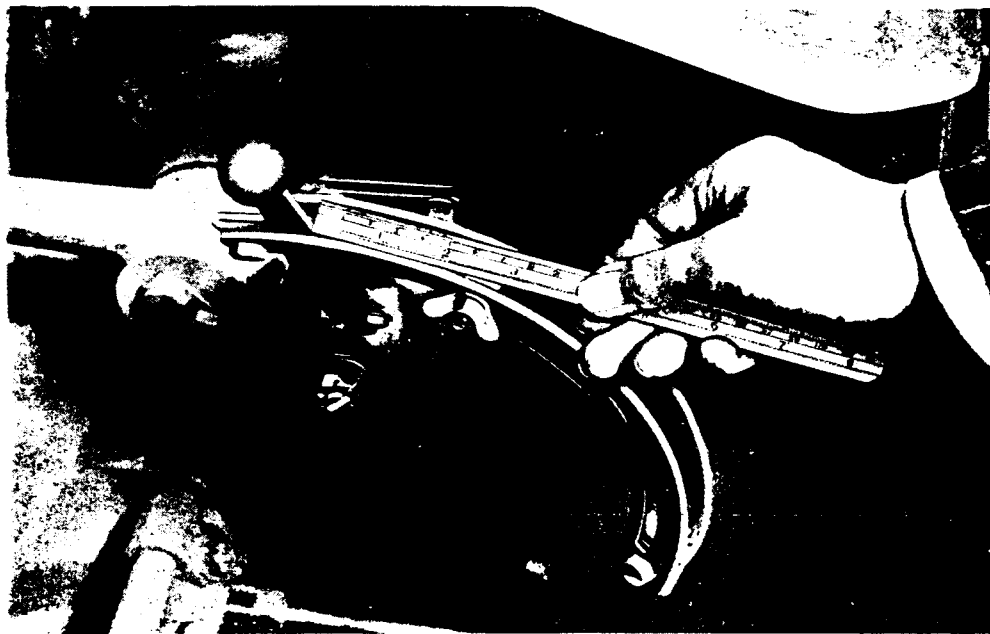

FIG. 22
2. Slacken the four screws (51) securing the quadrant to the lift cover. Note that the holes in the quadrant are elongated.
3. Set control stop (68) at exactly  $2\frac{1}{4}$  inches from the rearmost setting of the control lever. (See Fig. 22).
6. Re-tighten screws (51) equally and re-check.